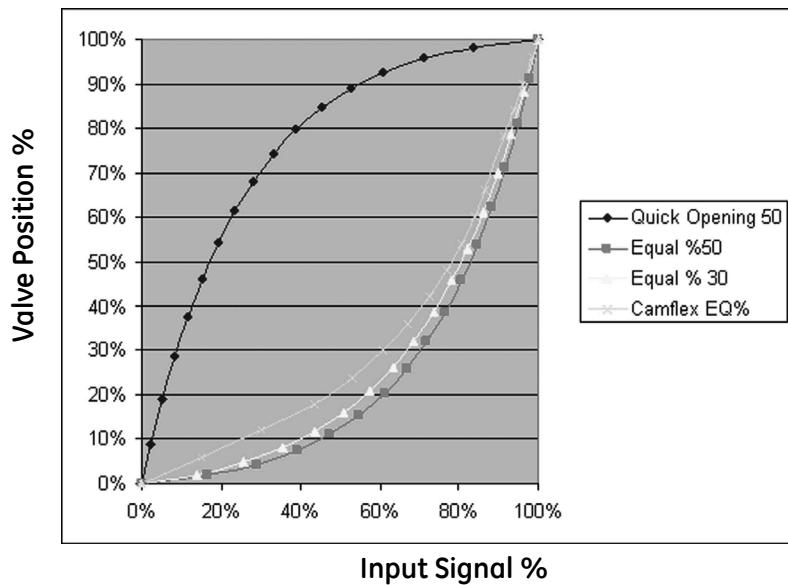

Figure 44 Characterization Curves
- Equal % (50) and Equal % (30)*: Two equal percentage characterizations are available, one with $R=50$ and the other with $R=30$.
- Figure 44 shows the characterization curves in a graphical format.